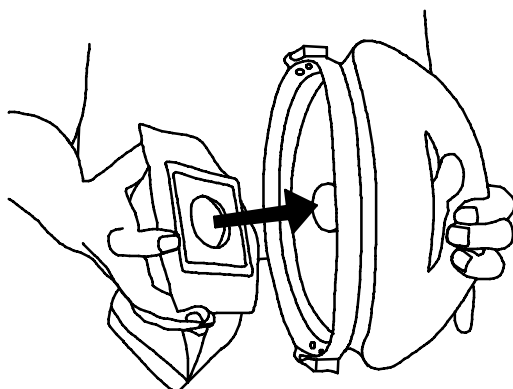

FIG. 3
3. Install a Micro filter (if there is not one already installed) by sliding the gasket of the Micro filter over the inlet on the inside of the top cap (Figure 3). Replace the cap, making sure that the latches catch correctly.